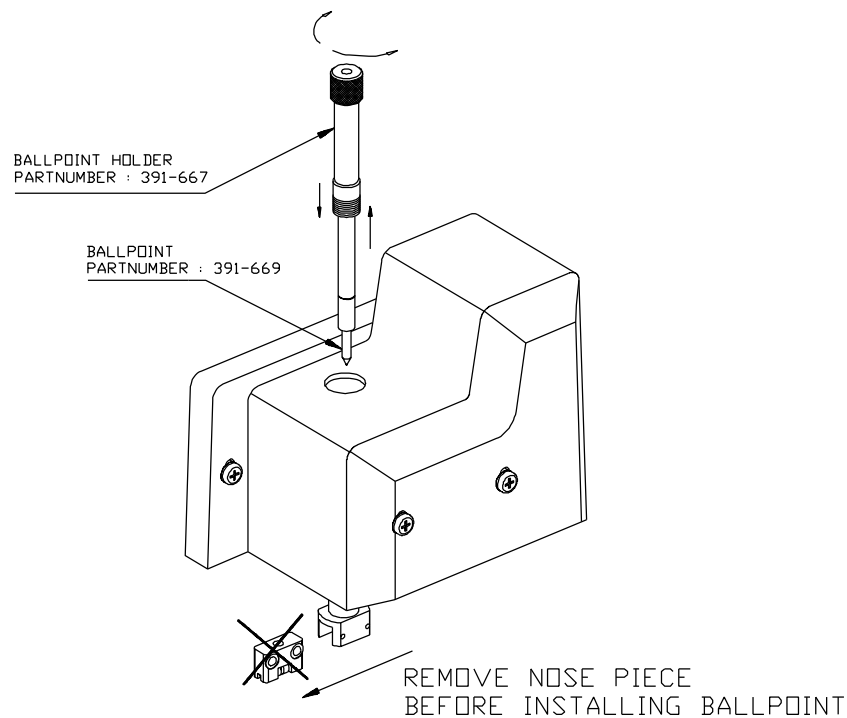

FIGURE 1-14 :
2. Remove the nose piece (refer to Fig 1-14)
3. Insert the ballpoint pen holder into the tool shaft as shown in Figure 1-14.
4. Install the ballpoint pen as shown in Figure 1-14. Insert the ball point pen holder as far as possible by turning it clockwise while holding the nose piece holder in place with the other hand.